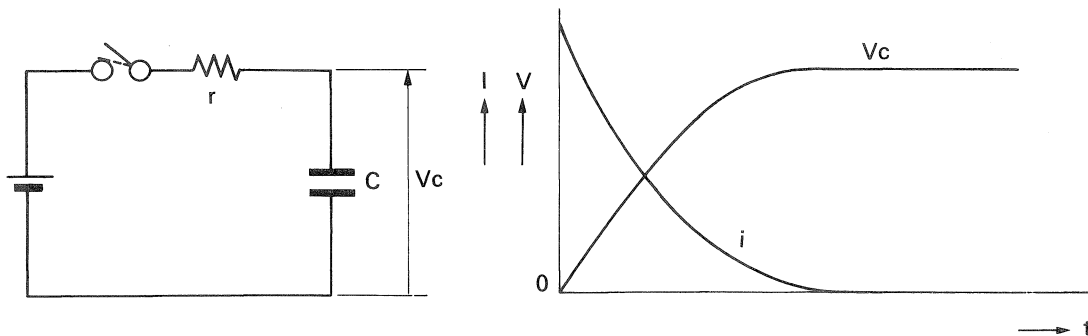

Fig. 13 Charging current & voltage
In the circuit shown in Fig. 13, the voltage drops due to the presence of resistance "r" when the switch is turned on and so charging is not completed in an instant but takes a certain period of time. At this time, the current entering the capacitor and the voltage at both ends are as per Figs. 13(2) 1) and 2).